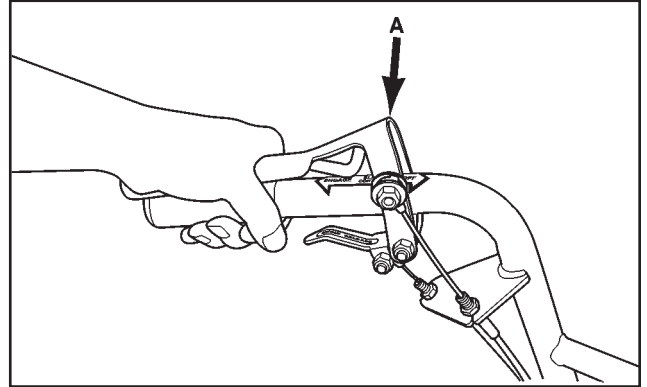

FIGURE 23 Attachment Drive Control and Brake Lever
4. Depress the ATTACHMENT DRIVE CONTROL AND BRAKE LEVER, A, as shown. This releases the brake and engages the drive (See Figure 23).